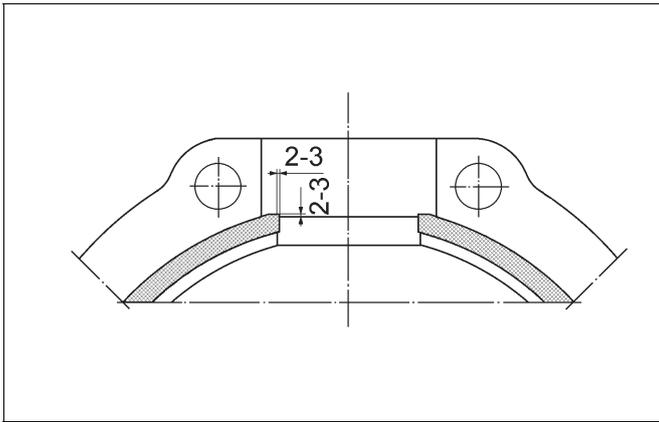

Fig. 17 Fitting and cutting the graphite gasket
- ❑ Place the bearings (60,61) onto the thrust and trunnion bearings so that the PTFE surface touches the stem. See Figure 17.
- ❑ Push the bearing (60) into the thrust bearing (4).
- ❑ Turn the bearing (61) so that it fits inside the trunnion bearing (5). Push the bearing until the lip is flush with the flange groove. Then release the bearing and push the lip into the groove.
- ❑ When you install the thrust bearing (89), make sure that the PTFE surface is against the ball shoulder.